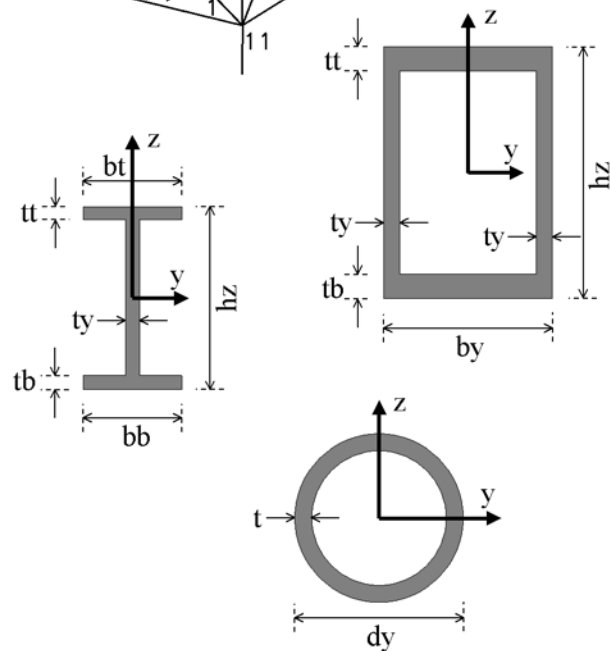

Figure A.3 The cross sections of the module frame
The model to create is illustrated in Figure A.1. The following consistent set of units are used: KiloNewton (kN), meter, second and tonne. The main dimensions are defined in Figure A.2. The cross sectional data are defined in Figure A.3. The material is steel with data: $E = 2.1E8$, $\nu = 0.3$ and $\rho = 7.85$. The loads are shown in Figure A.4. The module is fixed by spring-to-ground elements connected to the bottom of the four tubular support elements.
- Define the beam cross sections given in Figure A.3.
- Use the PROPERTY CONNECT SECTION command to assign section numbers to beam elements of the cellar deck. Refer to Figure A.3. Use the LINE option to select all elements between two nodes.
- Beams with box sections 1 and 2 in the cellar deck correspond to beams with box sections 7 and 8 in the main deck; see Figure A.3. Overrule previous section assignments with new ones by using the PROPERTY CONNECT SECTION command.
- The default local coordinate systems assigned to the elements are OK for all elements except for the four braces between cellar and main deck along axes A and C; see Figure A.3. Use the command: